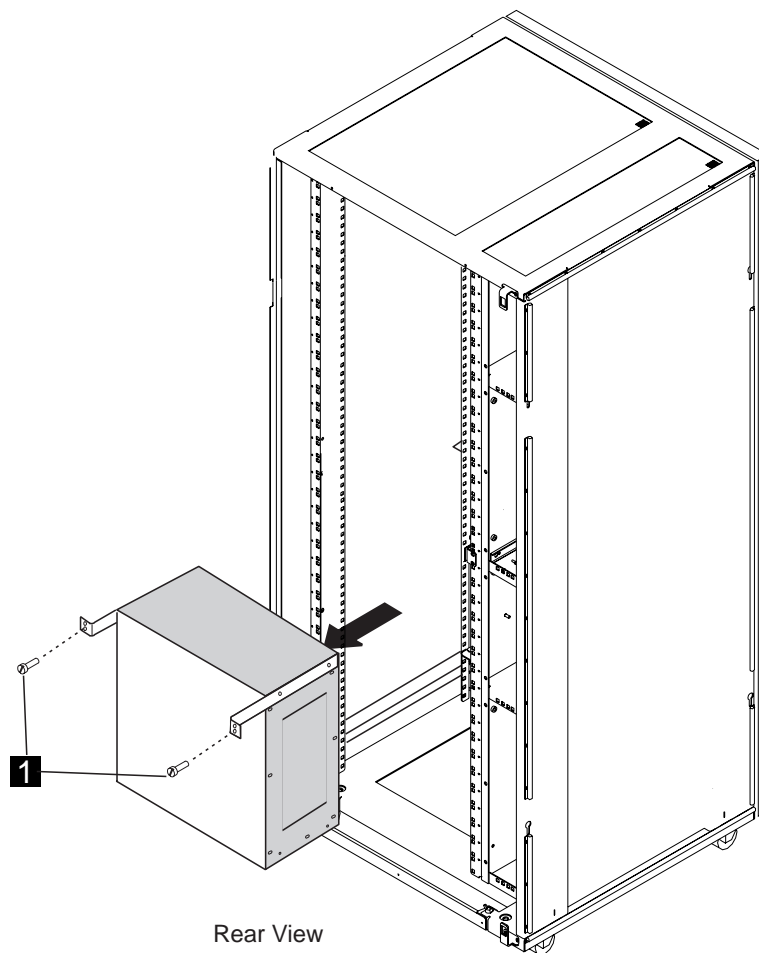

Figure 8. MAE Removal from the Controller Expansion
2. From the rear of the controller expansion, (see Figure 8 on page 15) Remove the two screws **1**